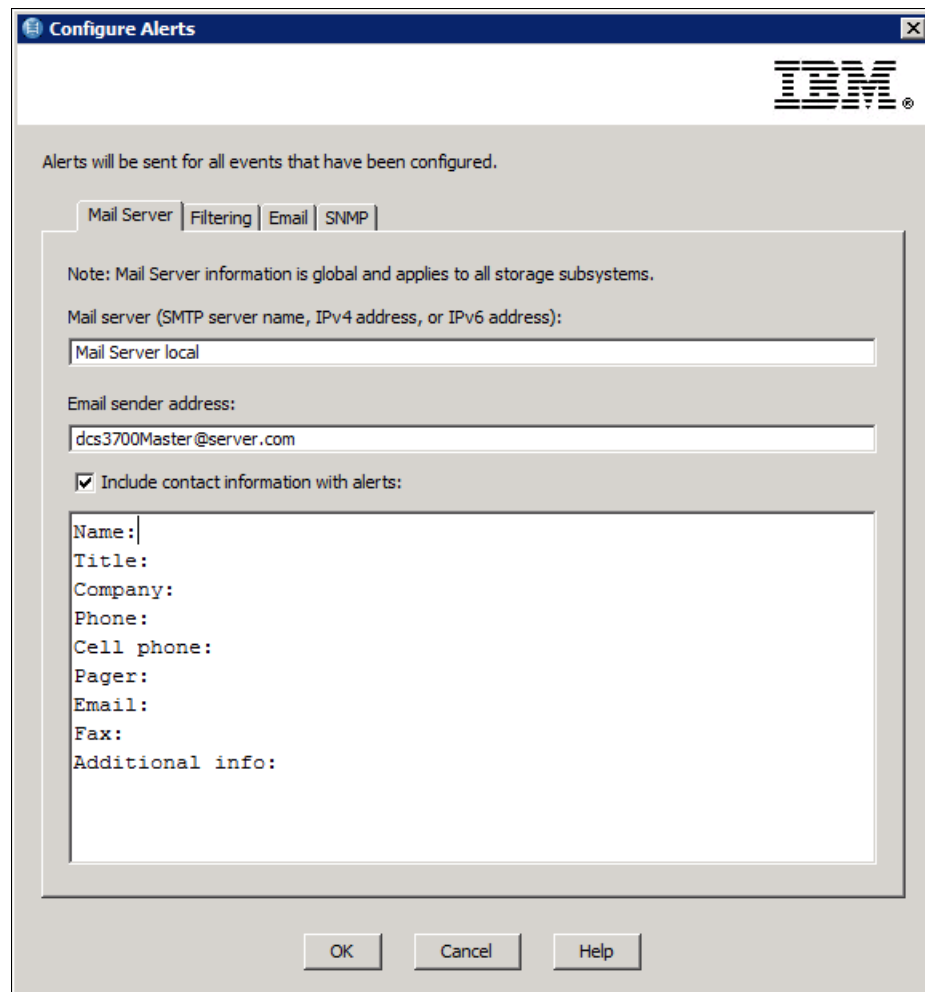

Figure 5-14 *Configure Alerts - define a mail server*
- ▶ Select **Configure Alerts** for one or more systems. The alert window opens (Figure 5-14).
1. To send email alerts, you must first define an SMTP server. Enter the name or IP address of your mail server and the sender email address, as shown in Figure 5-14.